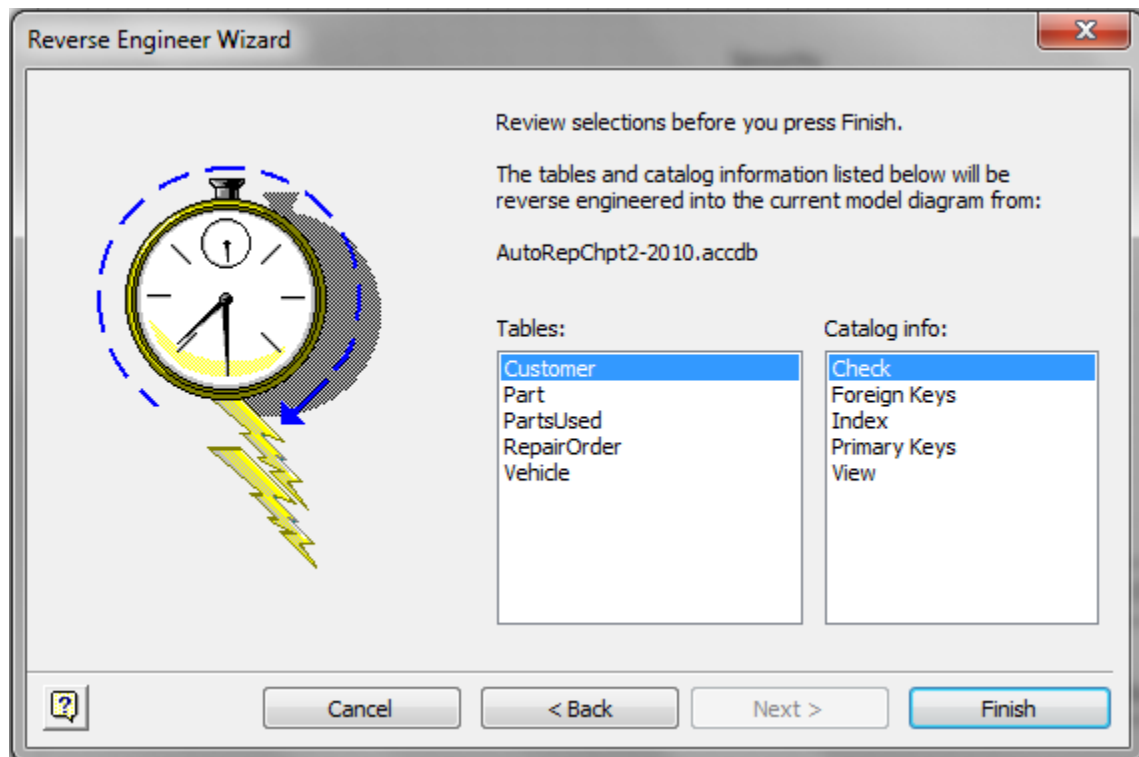

Figure 67: Final Window of the Reverse Engineer Wizard
6. Final Wizard Window: The final window presents the choices that you previously made. The final wizard window should appear as shown in Figure 67 except for the location of the database. If it does not, click the **Back** button to make corrections; otherwise, click **Finish**.